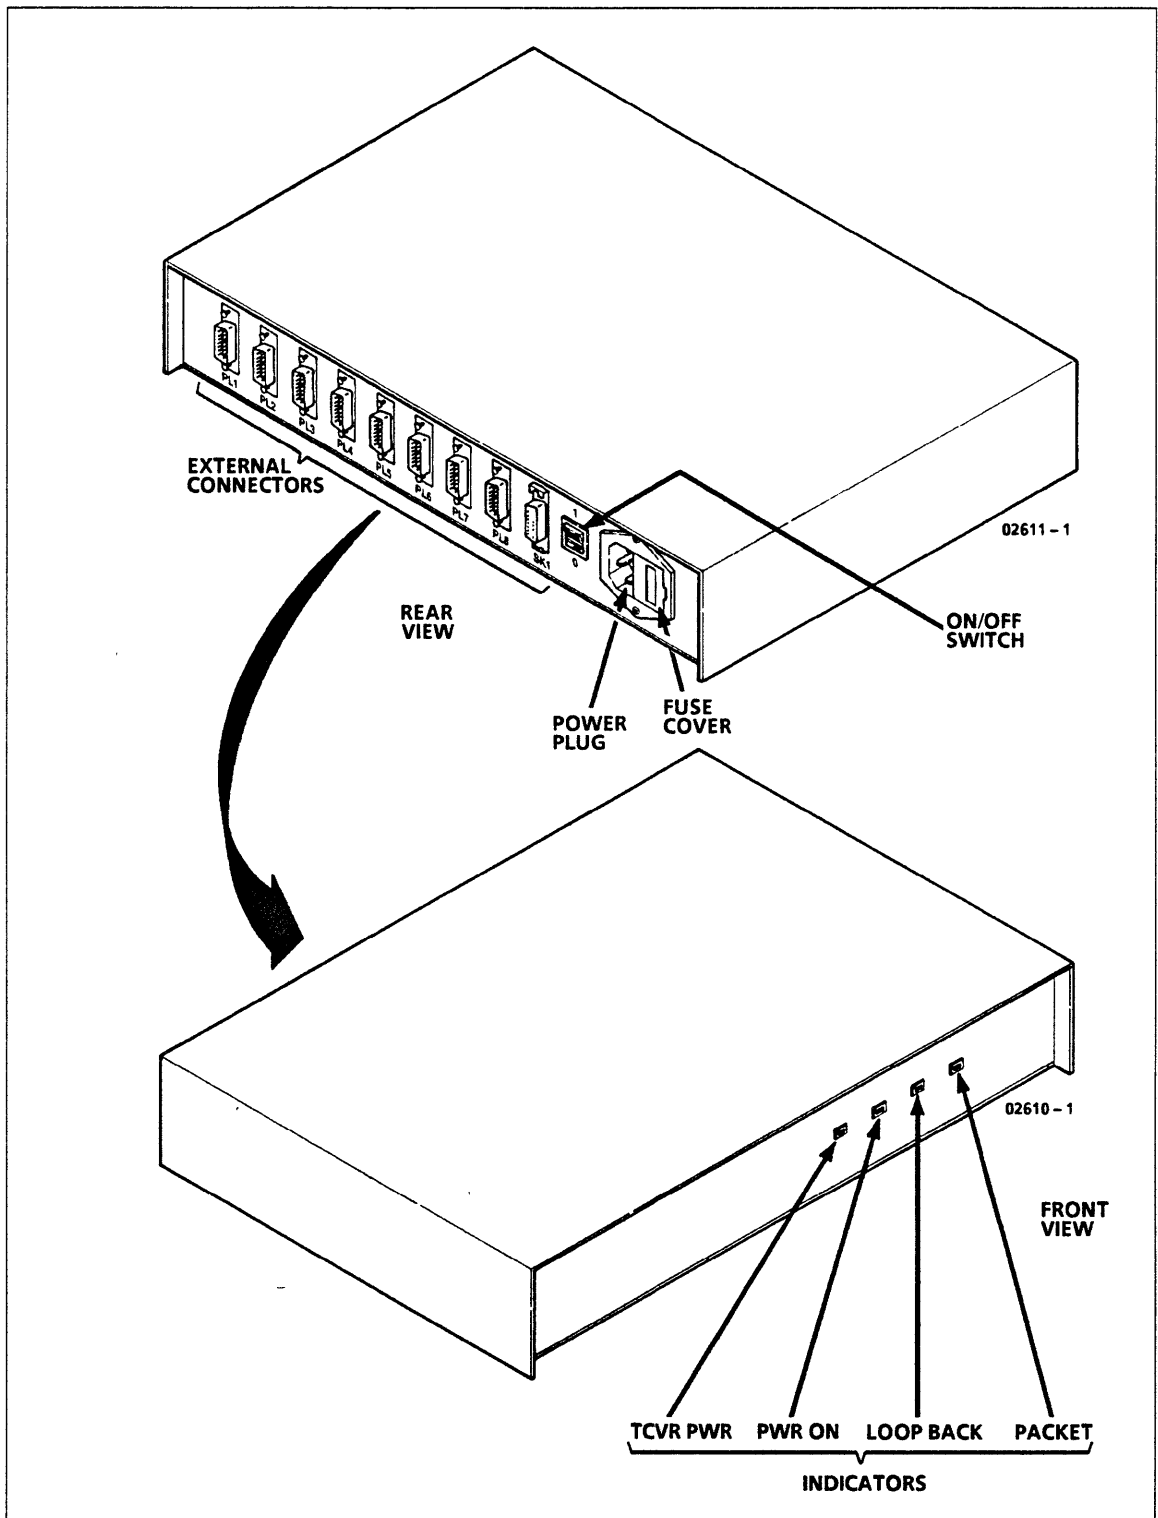

Figure 9-32. TN112C Multiplexer
1. Turn power off by pressing ON/OFF toggle switch in back of multiplexer and unplug power cord (figure 9-32).
2. Disconnect all cables connected to the multiplexer (figure 9-32).